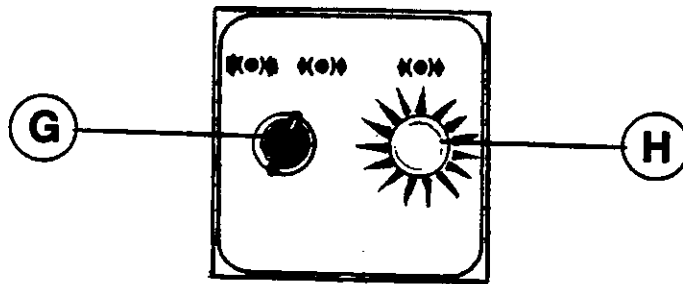

Fig.49
To carry out the working turn selector (G fig.49) to the left. When you turn the switch for saw control to position 0, the motor automatically brakes. For changing blade the spindle must rotate freely; in this case turn selector (G) to the right; pilot lamp (H) lights up. The motor may be started only if selector (G) is turned to the left.